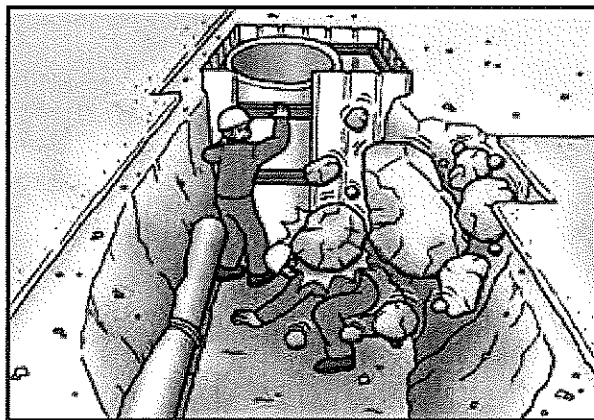

FIGURE 4.2
4.2 FIGURE 4.2 below shows people working in excavations.